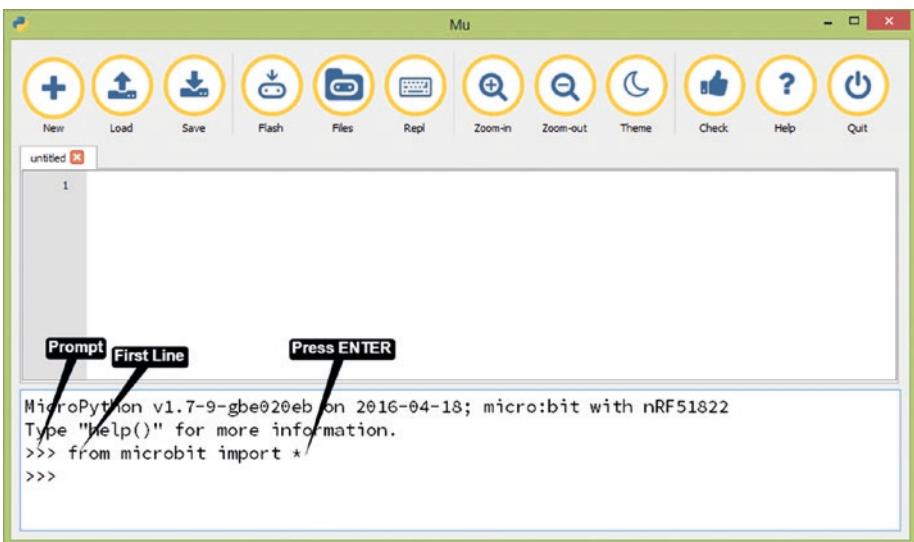

Figure 1-32. Writing on the interactive shell
3. Type the first line of the program, from `microbit import *`, and press Enter (see Figure 1-32).